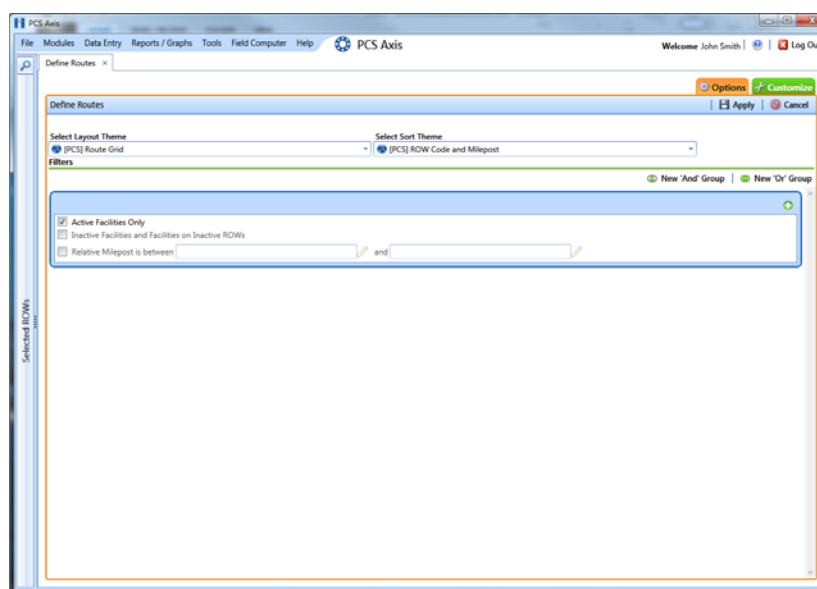

Figure 7-3. Filters
- a Click the check box of one or more options in *Filters* and then click  **Apply**. For example, click **Active Facilities Only** to only include active facilities (Figure 7-3, page 288).